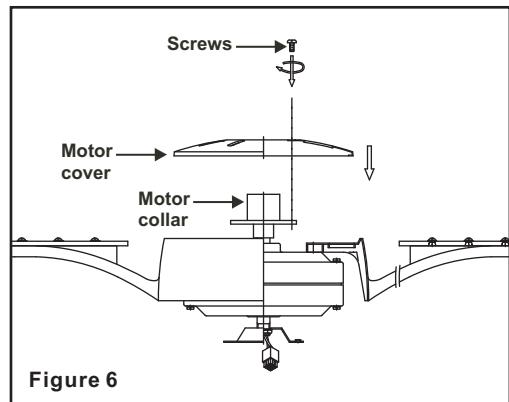

Figure 6
Step 1 Remove the six screws and lock washers from the motor collar. (Fig. 6)
Step 2 Place the motor cover over the motor. Align the mounting holes with the holes in the motor and fasten using the six screws and lock washers previously removed. (Fig. 6)